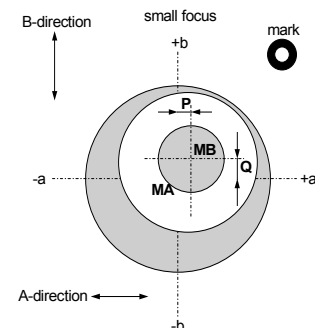

Figure 20: SF alignment
- the center MA of the projection of ring A (see Figure 20)
- the center MB of the projection of ring B (see Figure 20)
5. Make an exposure with **large** focus (LF)